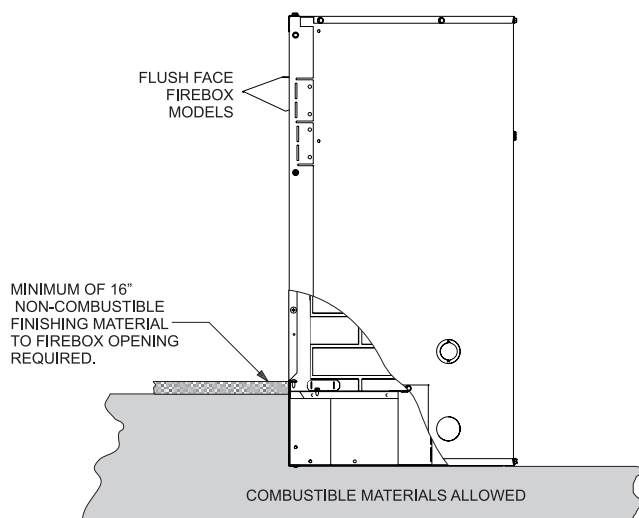
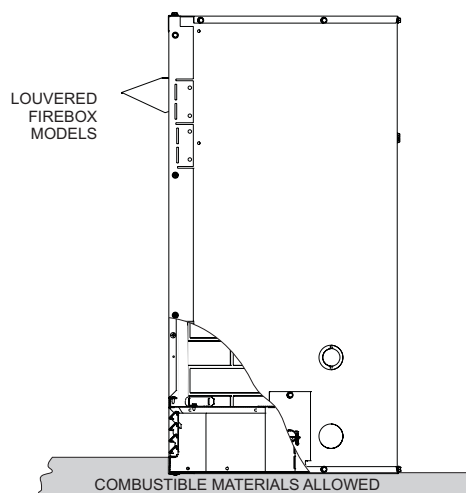

Figure 4
Figure 5
3. Recessed into the floor as illustrated by **(Figure 4)** (flush face), and **(Figure 5)** (louvered models).